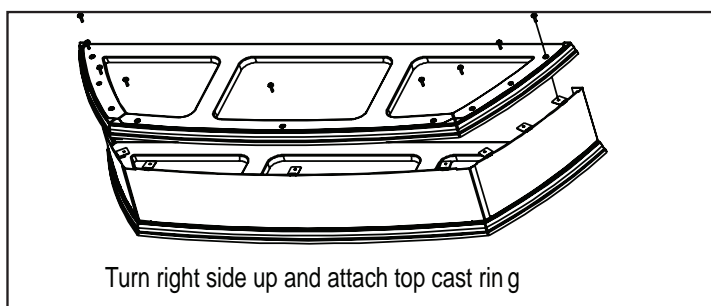

Figure 20.2
5. Now turn the cast ring right side up and attach the top cast ring. **Figure 20.2.**